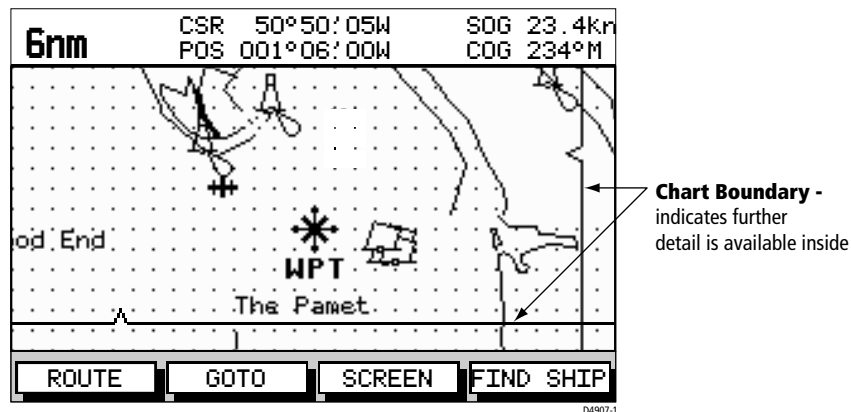

Figure 2-8: Chart Detail Boundaries
3. If further chart detail is available, using the current chart card you can press the bottom of the **RANGE** key to zoom in further, first re-positioning the cursor if required. An area of further chart detail is indicated by a box around the area as shown in *Figure 2-8*.